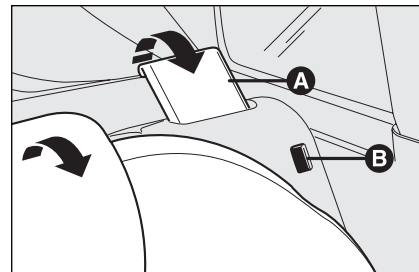

fig. 97
- lift seat back retaining lever **A-fig. 97** and tilt the seat back forward. Lever lifting is shown by a “red band” **B**.